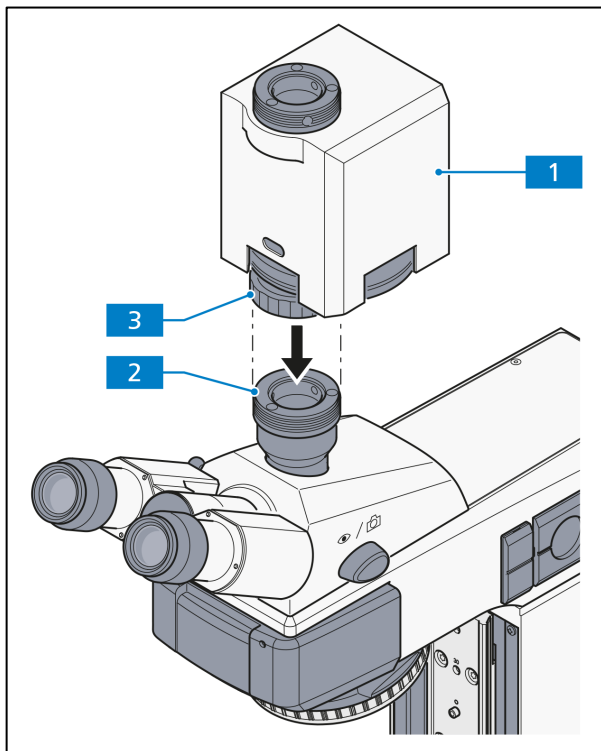

Fig. 3-41 Mounting the magnification changer
- Remove the camera adapter or the dust protection cover from the camera port (Fig. 3-41/2) of the photo tube.
- Mount the magnification changer (Fig. 3-41/1) on the camera port, adjust it and fasten it with the retainer nut (Fig. 3-41/3).